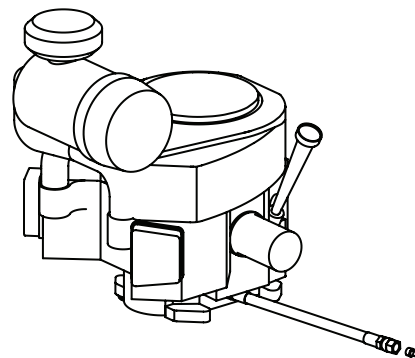

Fig. 35
2. Locate the oil drain hose on the engine (Fig. 35).
5. While holding the free end of the oil drain hose over the oil collection container, unscrew the square-head hose plug from the end of the hose (Fig. 35). Drain the engine oil into the collection container.